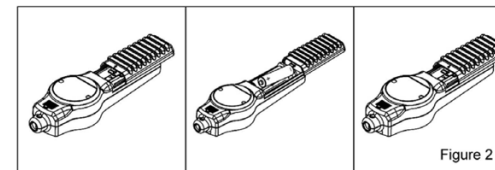

Figure 2
1. See Figure 2. Using a thumb to push open the battery door located at the bottom of the detector; then to remove the door.